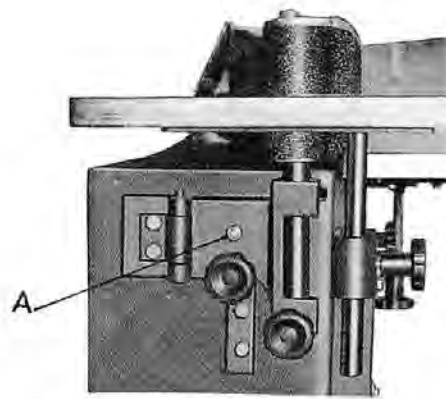

Fig.6.
Adjustment of the abrasive belt will cause spring fatigue when used for a long period. If this happens, you don't need to change the spring, just rotate the tension adjustment screw (A) Fig. 6, clockwise until you achieve the proper tension spring fatigue compensation.